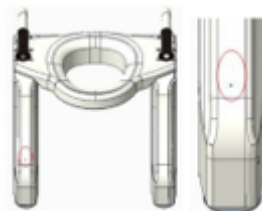

Figure 3 : Power display
2. The power display is located in the position shown in Figure 3.